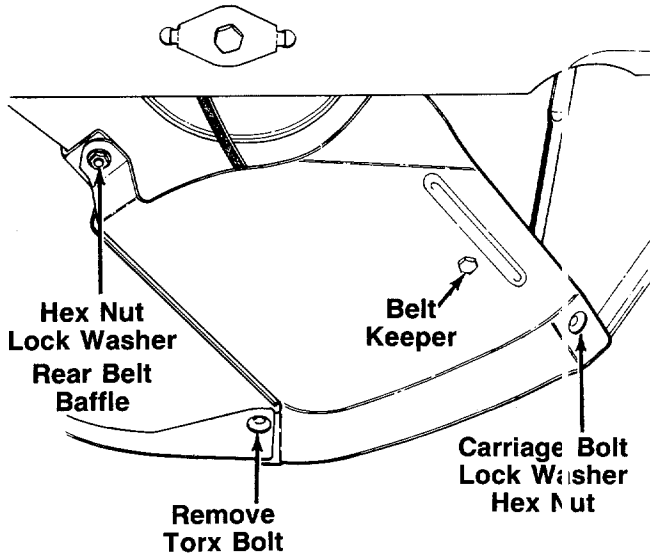

FIGURE 28.
4. Remove the rear belt baffle by removing the lock washer and hex nut shown in figure 28. Then remove one Torx bolt, using a #27 Torx driver. A 9/64" Allen wrench may also be used. Then remove one carriage bolt, lock washer and nut as shown.
When reassembling the rear belt baffle, make certain the belt keeper is outside of the belt, and the edge of the rear belt baffle is between the rear chute baffle and the rear panel as shown in figure 28. Make certain to tighten all nuts and bolts securely. If plastic was placed under the gas cap, be certain to remove it.